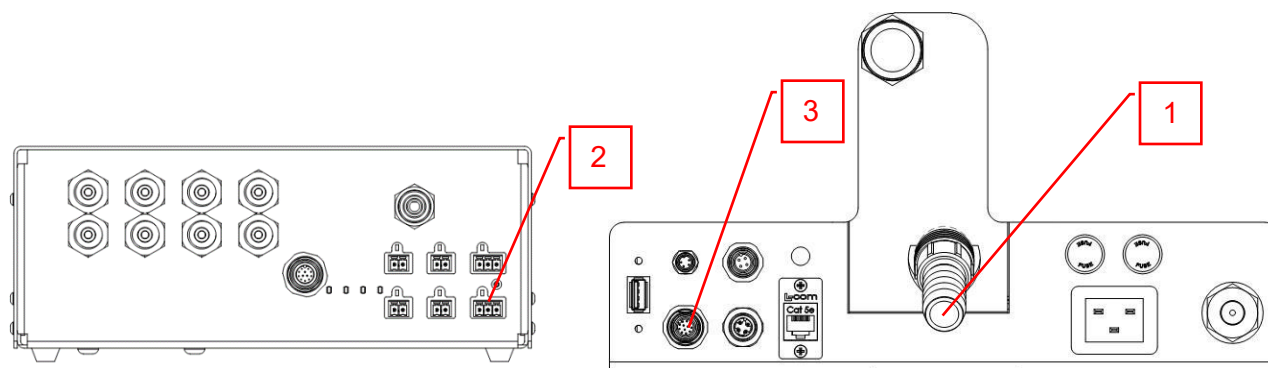

Figure 16 Control Box and Spin Coater Utilities
- 2) Locate the equipment drain port on the rear utilities panel (1 in Figure 16).
- Connect the waste bottle sensor to the dispense control box (2 in Figure 16).
- Connect the sensor to the M12 connector on the rear utilities panel (3 in Figure 16).